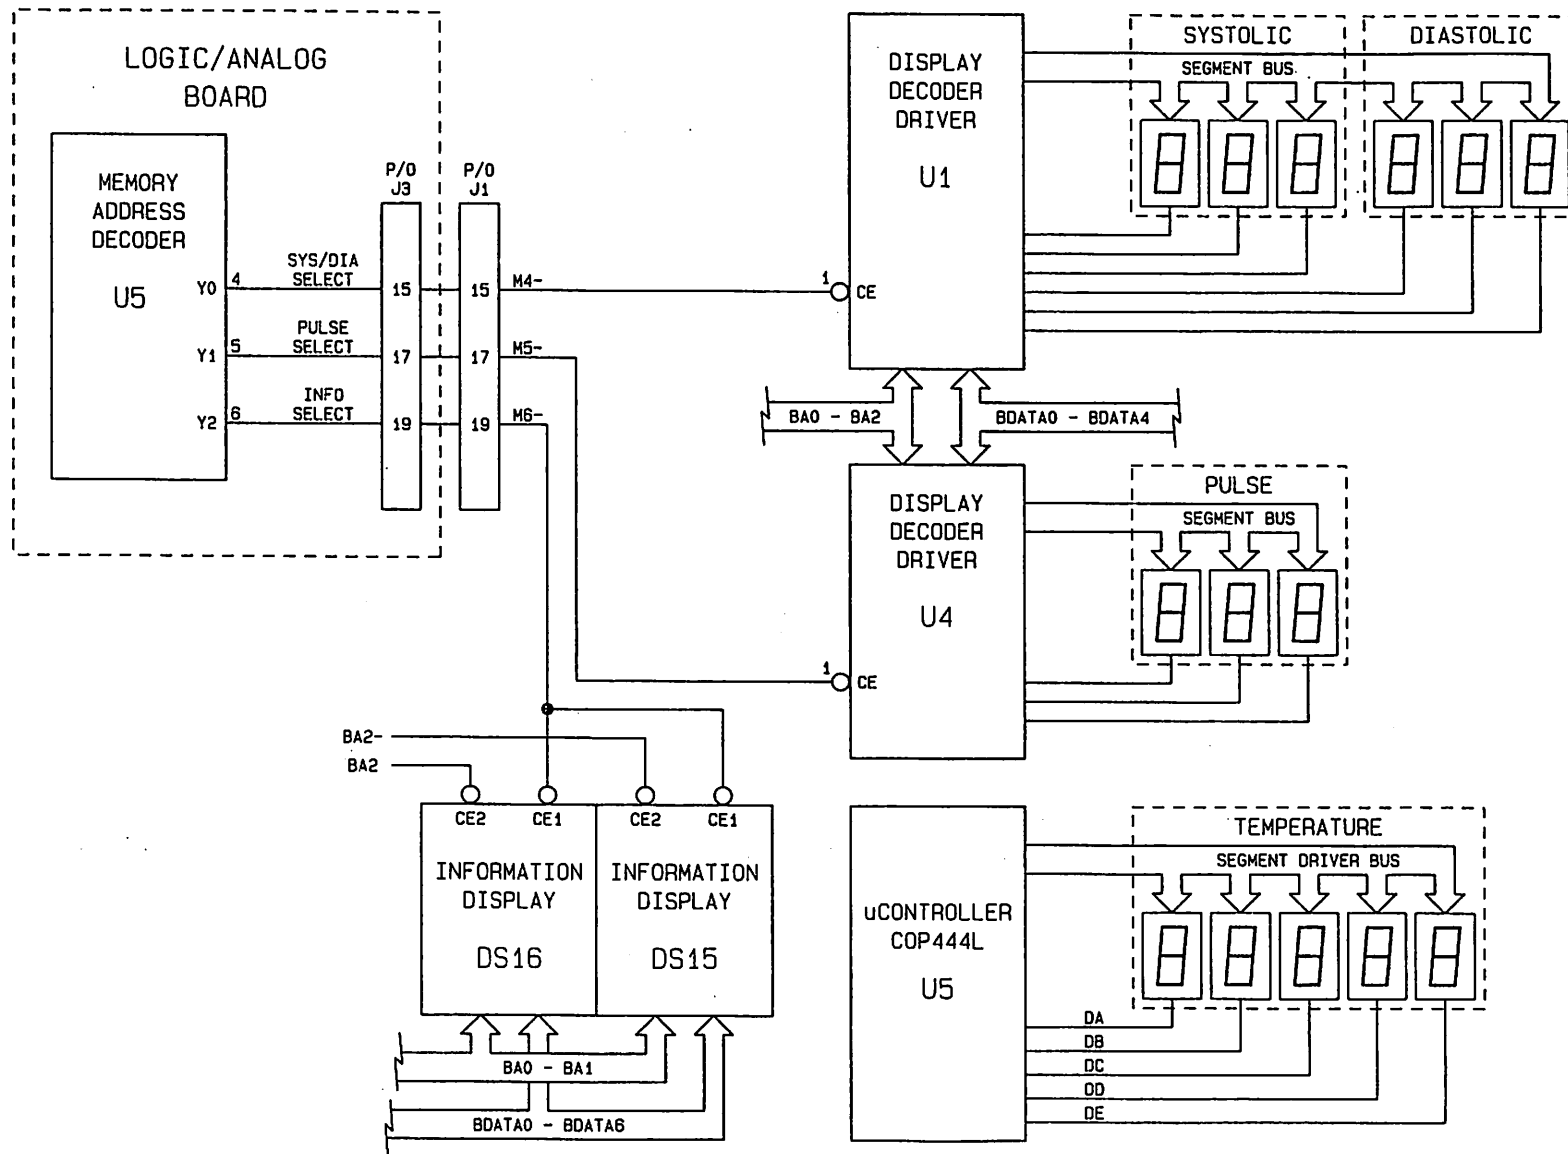

Figure 3-19. Display and Display Driver Boards Block Diagram
3.7 DISPLAY FUNCTIONS (figure 3-19)